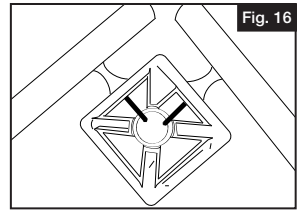

Fig. 16
1. Dry fit the two Hand Rail lineals. The Hand Rail lineals to be joined should extend far enough to allow for scribing and final cutting (Fig. 16).